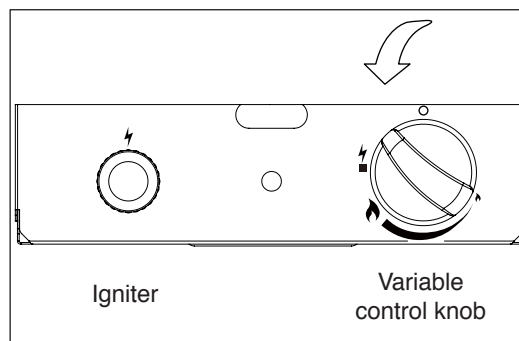

Figure 1
1. Turn the control knob to the "OFF" (O) position.
3. Push control knob in and rotate counter clockwise to "PILOT" (⚡) position (Figure 1).